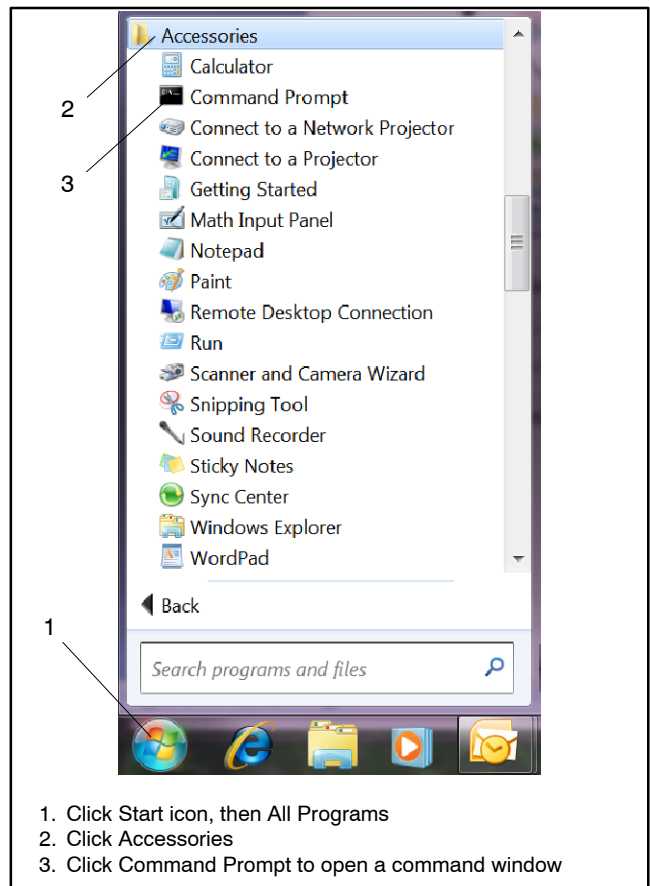

Figure 3-7 Opening a Command Prompt Window
1. Open a command prompt window on the PC by selecting Start, All Programs, Accessories, Command Prompt. See Figure 3-7.